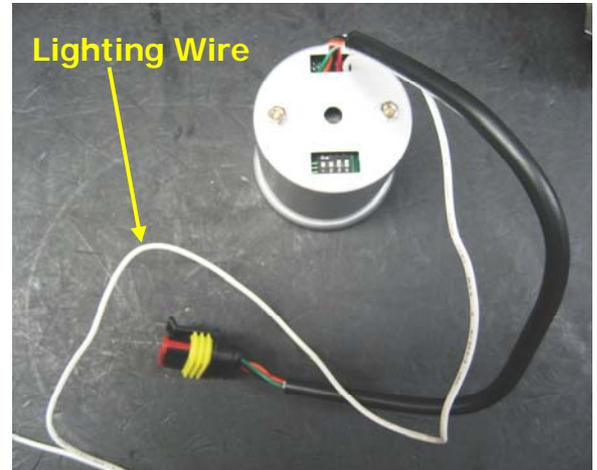

Fig. 12
4. Gauge lighting: refer to a wiring diagram for your vehicle and connect the white gauge wire to the output of the dash light dimmer knob, or directly to the headlight switch if desired (see figure 12).